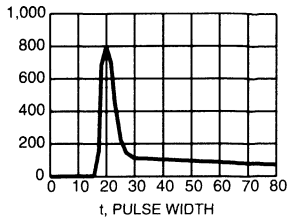

Figure 3
A. EMP: Voltage rise-times of EMP (Electromagnetic Pulse) transients, as generated by high altitude nuclear detonations, are 5kV/nsec. The presence of even a small amount of inductance in the protector circuit can have very profound results on the effectiveness of a protector device. This is illustrated with the oscillographs in Figures 3 and 4.
In Figure 3, a 30V Transient Voltage Suppressor in the DO-13 package was pulsed with a 100A 4kV/nsec rise-time transient. With 7.5 cm leads on each end, at which current was injected and voltage measured, the overshoot voltage is slightly greater than 800V. The energy under this curve is calculated to be 70μjoules, sufficient energy to destroy most types of MOS and some TTL devices. By reducing the lead length to zero and repeating the pulsing, the overshoot voltage is reduced to about 200V. The energy under this curve is less than 1μjoule, below the destruct threshold of MOS and TTL devices.